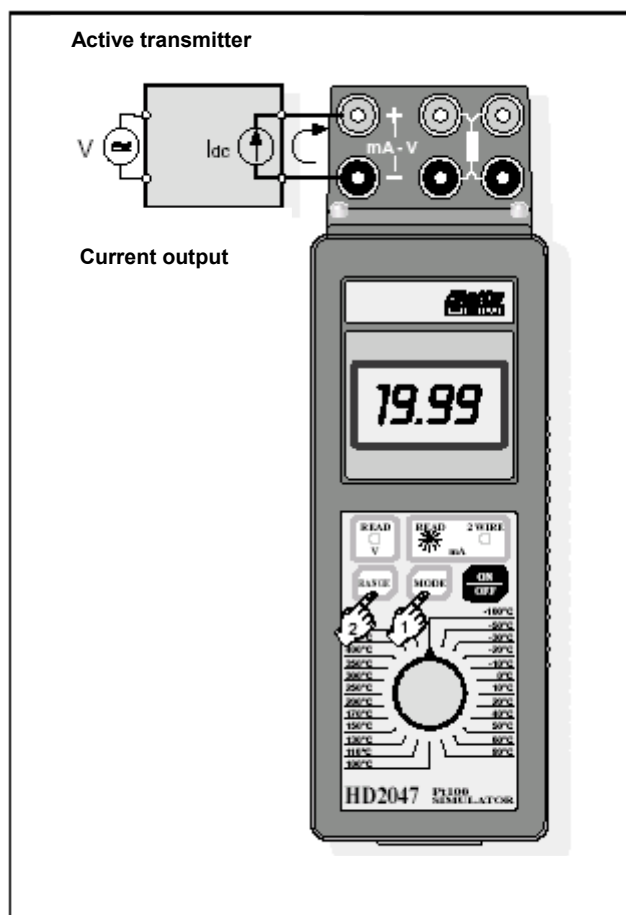

Fig. 2 . Continuous current measurement
Operating mode (see fig.2):
- connect the wires to the sockets, as shown in fig. 2, without changing the correct polarity: to be measured, the current must be delivered through the positive (+) socket;